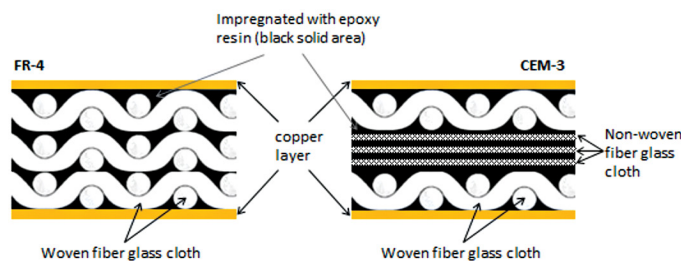

Figure 7. Cross section of a FR-4 and CEM-3 PCBs. Not drawn to scale; for illustration purposes only.
FR-4/CEM-3 board construction consists of the following layers (Figure 7):
- FR-4 (woven fiber glass fabrics reinforced epoxy laminate, Figure 7) sheet or CEM-3 (composite epoxy material constructed from both woven and non-woven fiber glass fabrics). These two materials have excellent electrical insulation properties but have very poor thermal conductivity. Both are priced economically and are widely available. For detail specifications on PCBs, it is best to refer to a standard generated by Association Connecting Electronics Industries, (ipc.org), IPC-4101C "Specification for Base Materials for Rigid and Multilayer Printed Boards" standard.